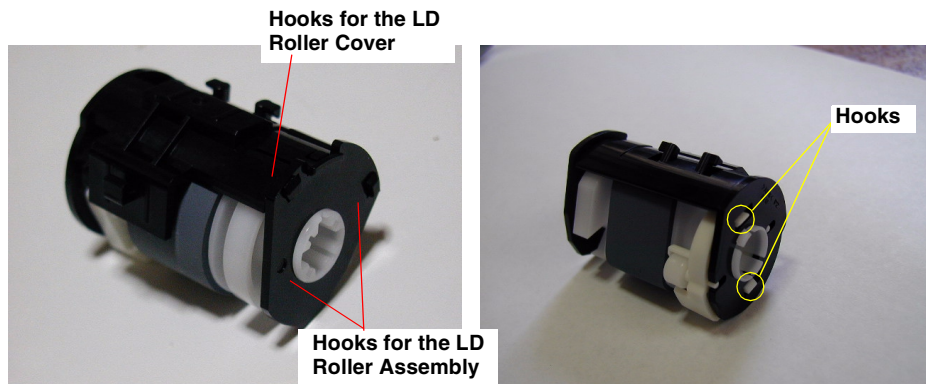

Figure 4-40. Releasing hooks for LD Roller
- 2) Release the two hooks fixing the LD Roller Cover to the Paper Feed Roller Assembly. Refer to Figure 4-40(Left Figure).
- 3) Release the two hooks securing the LD Roller, and remove the LD Roller from the LD Roller Cover. Refer to Figure 4-40(Right Figure).
- 3) Loosen the Timing Belt by pushing the Driven Pulley Holder to Right and remove the Timing Belt from the pinion gear of the CR motor. Refer to Figure 4-40.